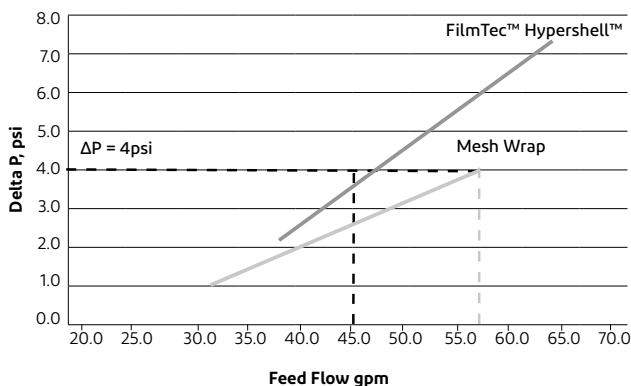

Figure 1: Feed Flow vs Pressure Drop for Mesh Wrap and FilmTec™ Hypershell™ Elements.
- Have reduced bypass compared to conventional full-fit mesh wrapped elements, which may result in energy savings (see figure 1), improved product processing and efficient Clean In Place (CIP).